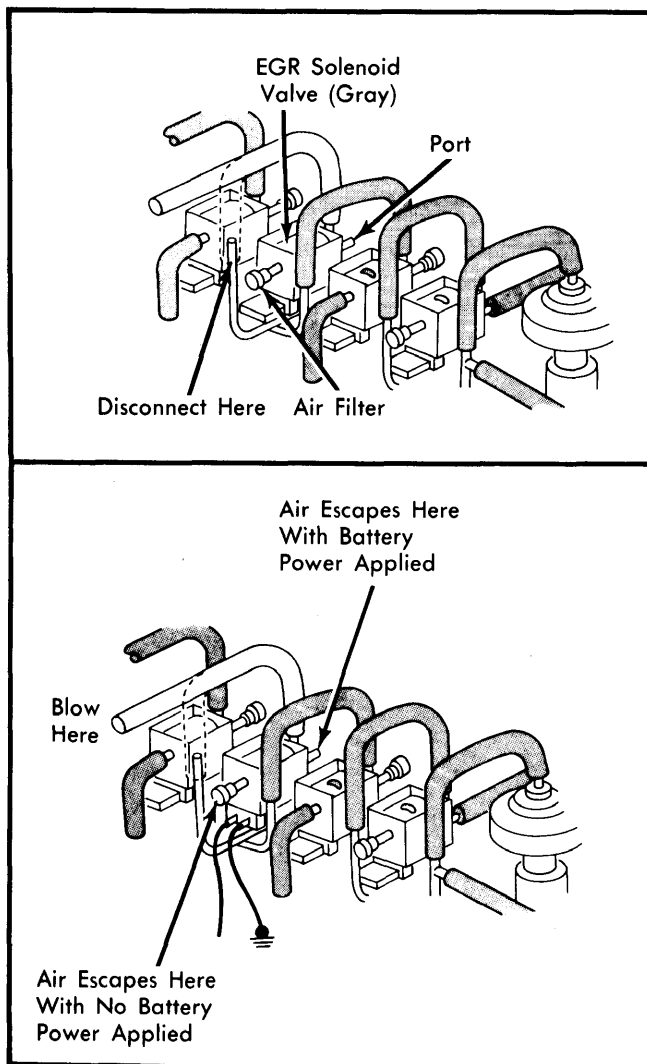

Fig. 2 Schematic Showing Hose Disconnection for Checking EGR Solenoid Valve
- 1) Disconnect vacuum sensing hose from EGR solenoid valve (gray color dot) and vacuum pipe. See Fig. 2. Blow through solenoid valve from vacuum sensing tube. Air should pass through valve and escape at air filter.